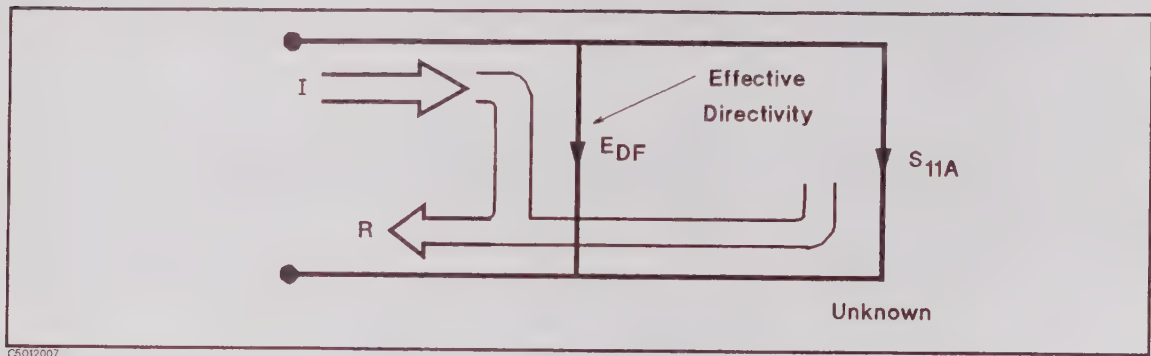

Figure A-28. Effective Directivity E_{DF}
Directivity Error. However, all of the incident signal does not always reach the unknown (see Figure A-28). Some of (I) may appear at the measurement system input due to leakage through the test set or other signal separation device. Also, some of (I) may be reflected by imperfect adapters between signal separation and the measurement plane. The vector sum of the leakage and miscellaneous reflections is directivity, E_{DF} . Understandably, the measurement is distorted when the directivity signal combines vectorally with the actual reflected signal from the unknown, S_{11A} .